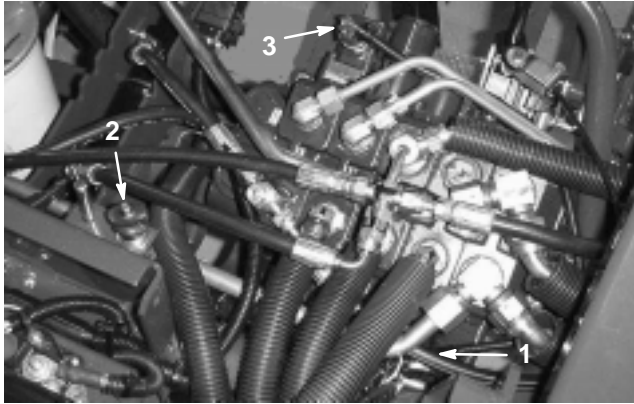

Figure 50
2. Remove the boot from the button end of the seat switch (Fig. 50) and retain it for installation on the replacement switch. Unplug the switch connectors.
2. Unplug the switch connectors from the traction switch installed in the valve bank bonnet on the selector valve section (Fig. 50).
2. Unplug the switch connectors from the end of the mow/lift switch installed in the valve bank bonnet (Fig. 50).